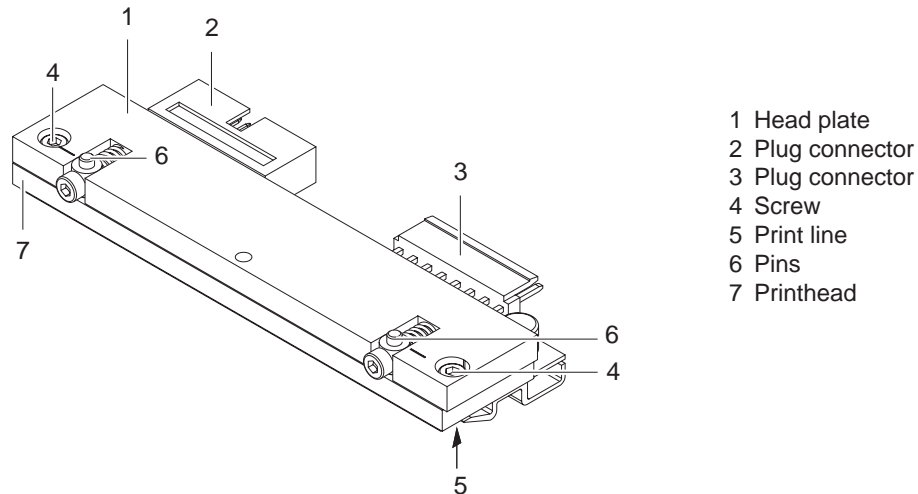

Fig.3 Printhead components
2. Position the printhead (7) in such a way that the threaded holes of the printhead are centered into the slots (Figure 3/6) of the printhead carriage.
3. Lightly keep printhead mounting bracket (2) on the print roller with one finger and check for correct positioning of the printhead mounting bracket (2).
4. Screw in screw (1) with washer with the Allen key (3) and tighten it.